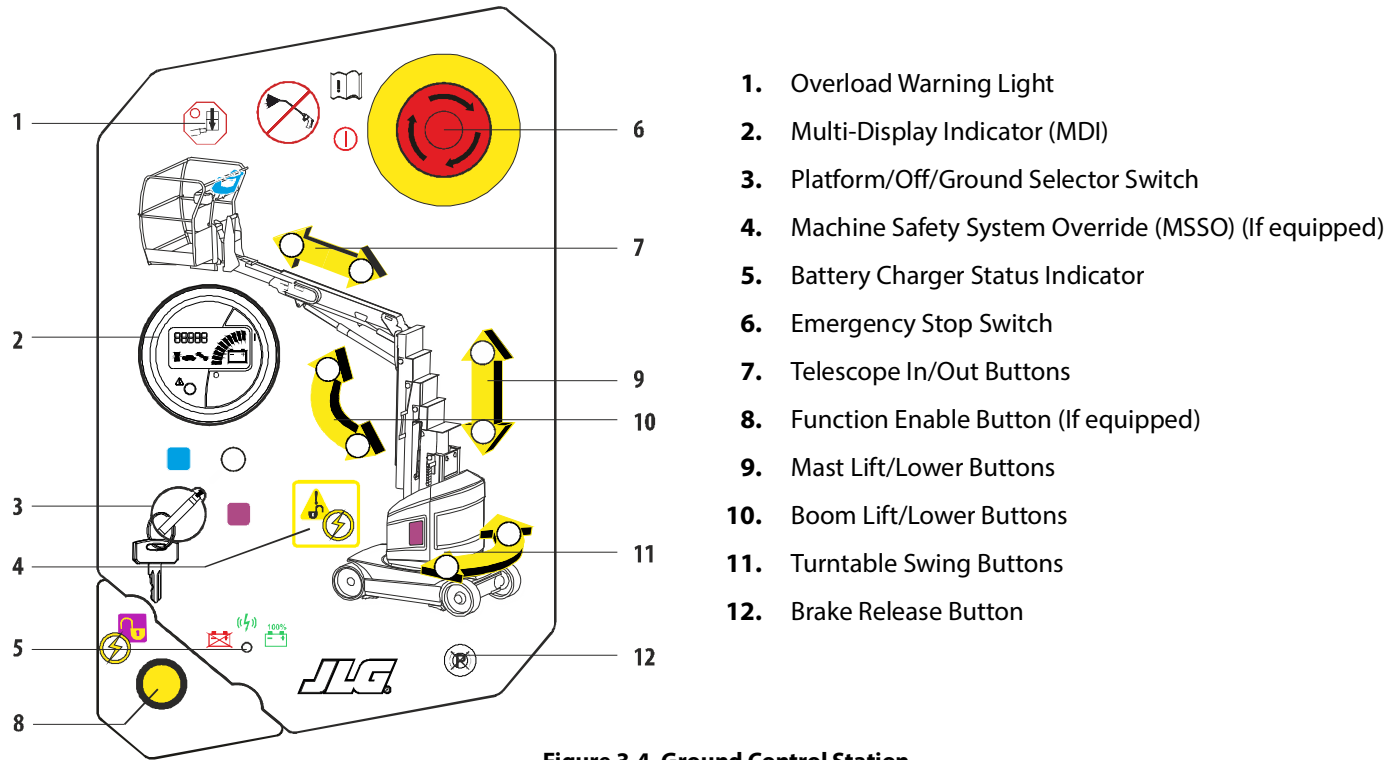

Figure 3-4. Ground Control Station
1. Push and hold the boom lift membrane switch at the ground control station. (Refer to Figure 3-4.).